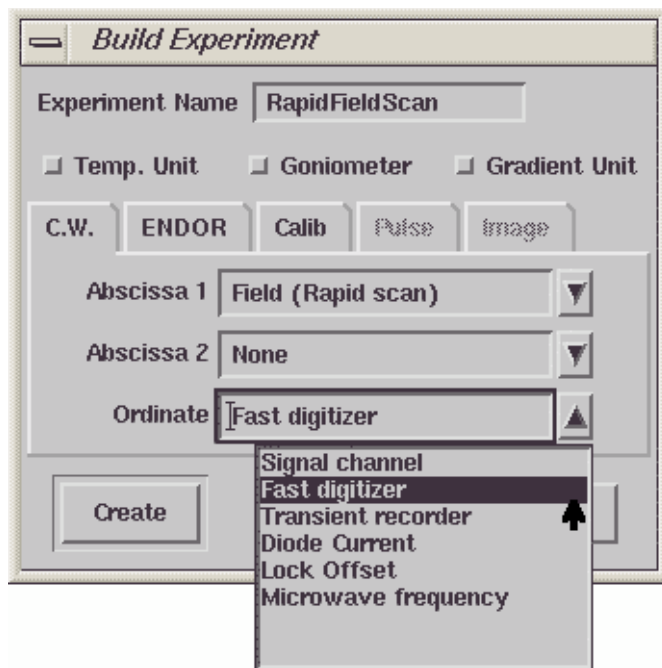

Figure 6-5 Selecting Fast digitizer as Ordinate.
3. **Select Fast Digitizer.** In the drop-down list of the Ordinate select Fast digitizer instead of Signal channel. Click Create to close the dialog box. (See Figure 6-5.)